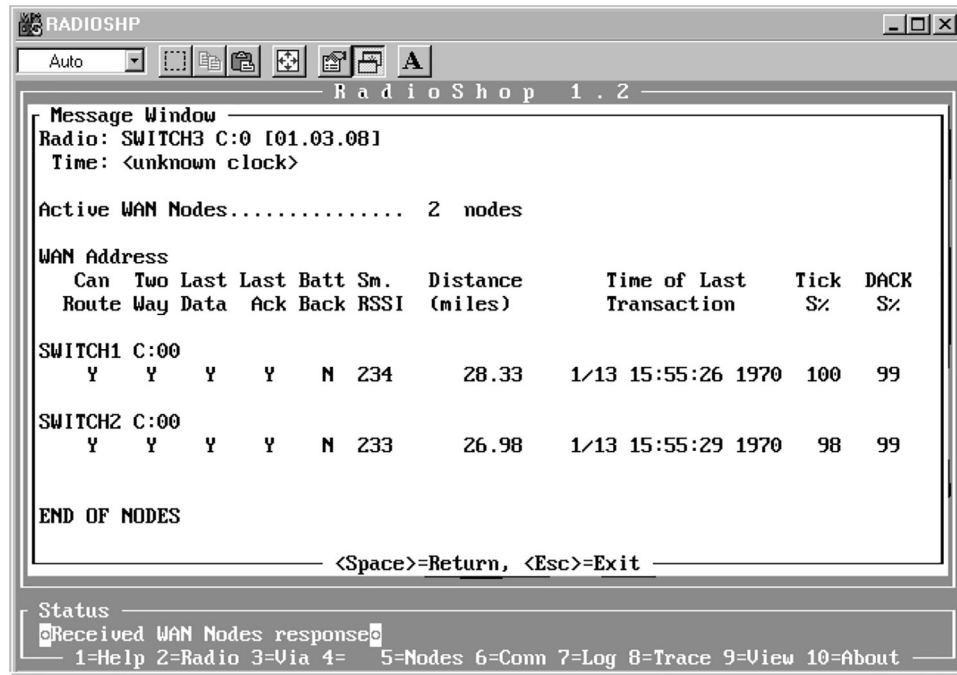

Figure 13. The WAN Nodes Query screen.
- (f) Press the <W> key to select the WAN Nodes entry. The RadioShop software queries the radio and displays the results. See Figure 13 on page 16.